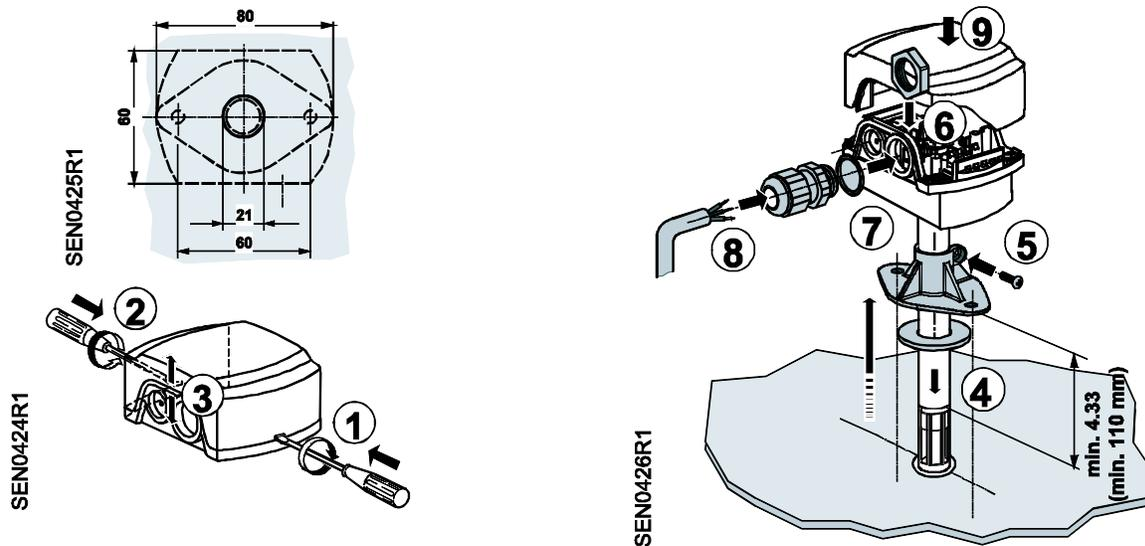

Figure 2. CO₂ Duct Sensor Installation.
Instructions (See Figure 2)
- b. Attach the sensor mounting bracket and gasket to the duct using two No. 8 × 1-inch sheet metal screws. See Figure 2 (4).
- c. Insert the sensor in the duct through the bracket and tighten the mounting screw to set the insertion depth. See Figure 2 (5).
- g. Reinstall the sensor cover. See Figure 2 (9).